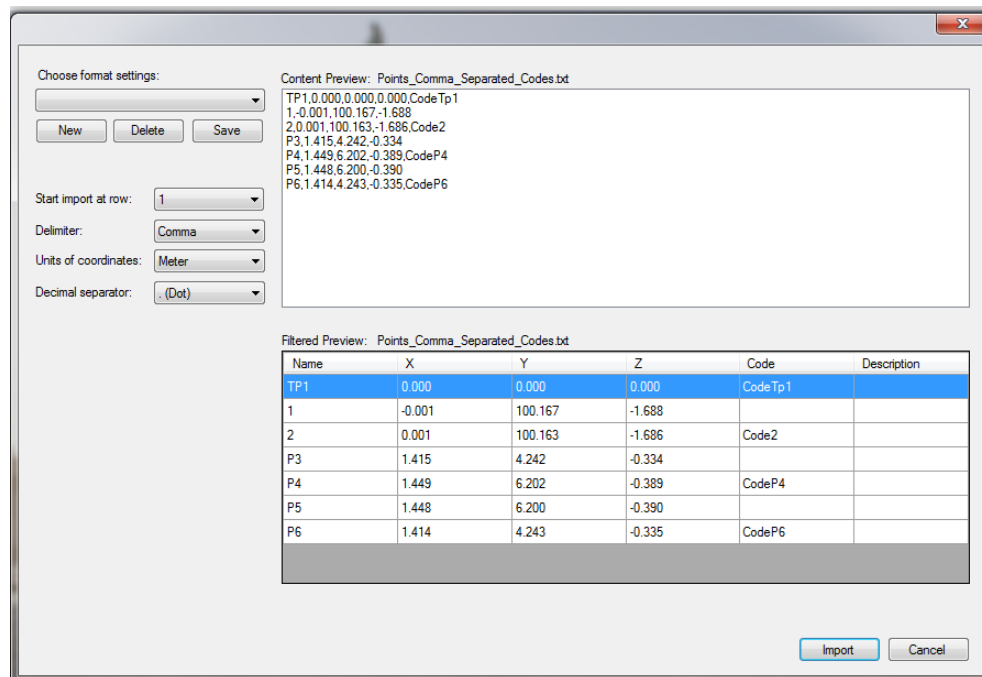

Figure 49: Import Measurements Window – View of TP (Control Points) File, Prior to Import
- The “Import Measurement” window (Figure 49) shows how DatuSurvey™ parses the control-points file. If the parsing is not correct, you can set the correct delimiter, change (by dragging) the order of the coordinate columns, and set the decimal separator. The default measurement unit is meters but you can change it by selecting other units from the dropdown list.
- Click **Properties** to manually edit the point coordinates (Figure 49).